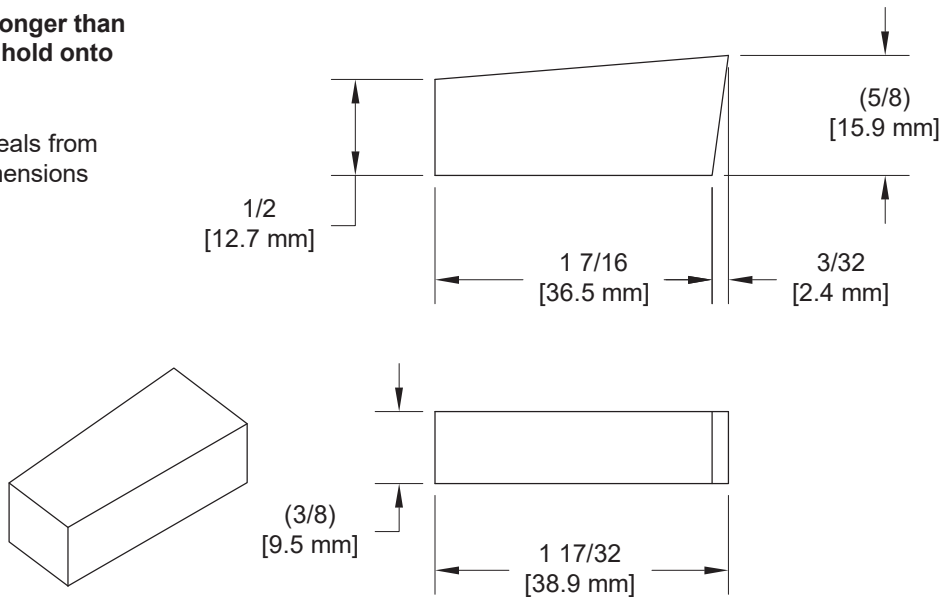

FIGURE 1: FABRICATE BASE SEAL
Step 4: Cut out the CANOPY LAY-UP TRIM TEMPLATE. (This is supplied full scale on a separate 24 X 36 in. [61.0 X 91.4 cm] drawing.) Using several small pieces of masking tape, align the template to the canopy and tape in place. Mark the trim line on the glass fabric lay-up using the template as a guide. (Page 39iS/U-15, Figure 1 also depicts the final-trim of the glass fabric lay-up.) Remove the template and use it to mark the opposite side of the canopy. Trim the glass fabric lay-up to the trim lines. Finish sand the trimmed edges.
Step 1: Fabricate the F-00059A-L & -R Base Seals from SEAL-00003 Foam PVC .375X.625 per the dimensions shown in Figure 1.